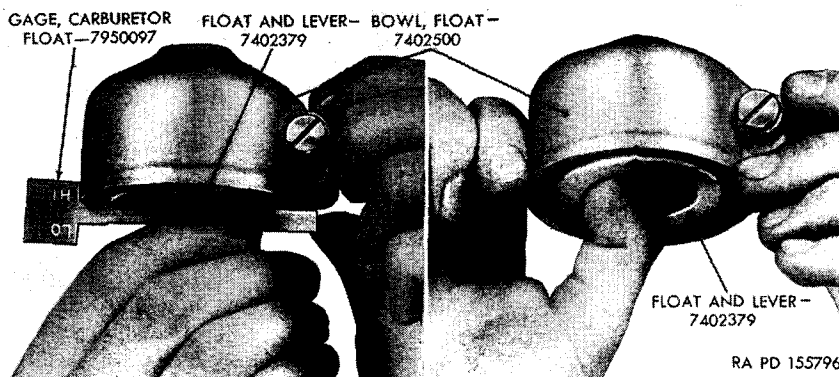
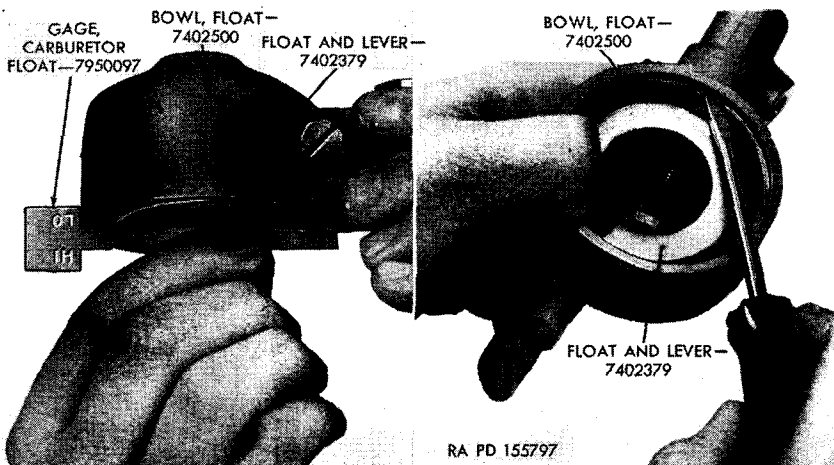

Figure 86. "Hi", step float check.
Figure 87. "Lo" step float check.
k. Hold float bowl in inverted position and place float gage across float bowl (fig. 86); float should touch "HI" step of gage but must not touch the "LO" step. If float clears "HI" step, carefully pull toe of float down (fig. 86). If float touches "LO" step of gage, hold float down and bend tang in with screwdriver (fig. 87). Again check float with "HI" and "LO" steps of gage.